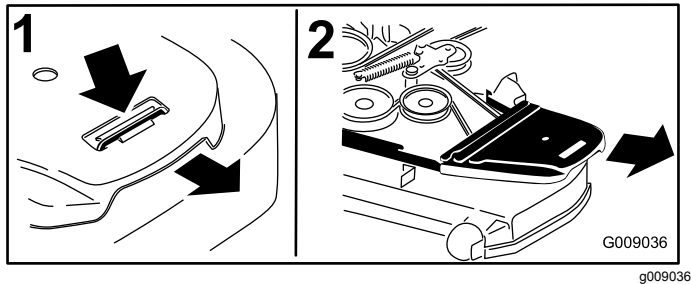

Figure 89
4. Remove the belt covers (Figure 89).